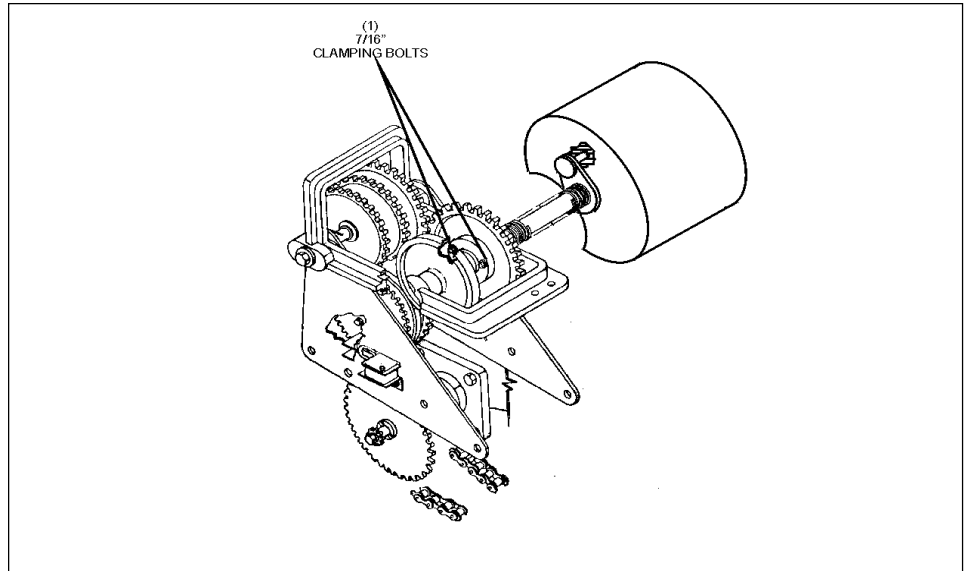

Figure 20. Loosen Bolts Holding Clamping Plate
- Using a 7/16 inch wrench, loosen the two (2) bolts on the clamping plate to the spur gear, so that the compound shaft will rotate freely. Refer to *Figure 20*.
(1) 7/16" CLAMPING BOLTS